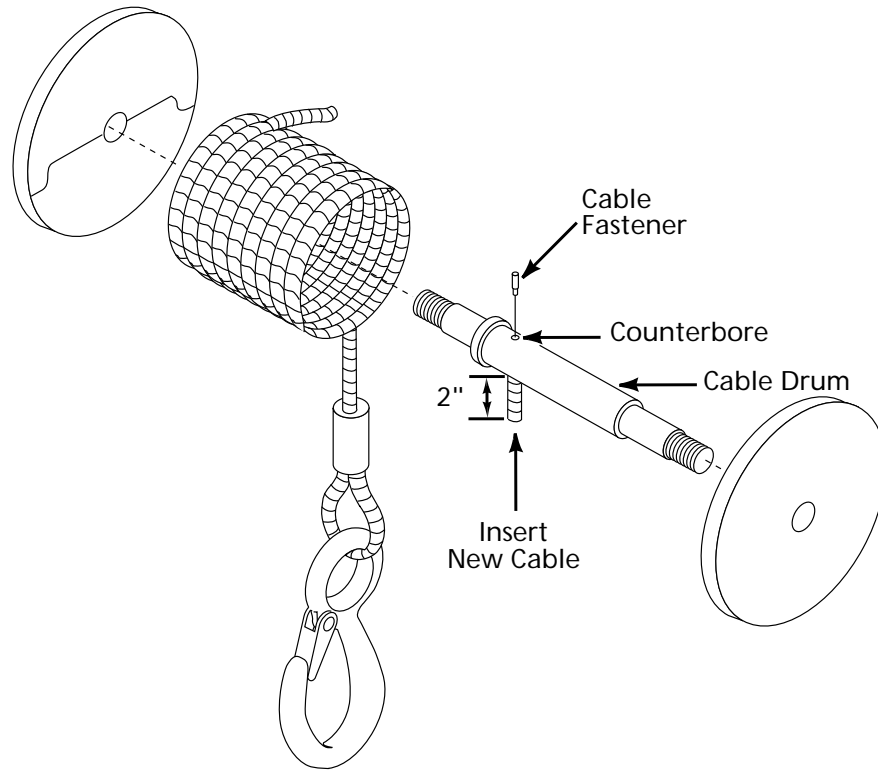

Figure 6 - Cable Replacement
3. Cut the old cable approximately 2" from the drum and push the remaining cable and fastener through the drum to remove (See Figure 6).